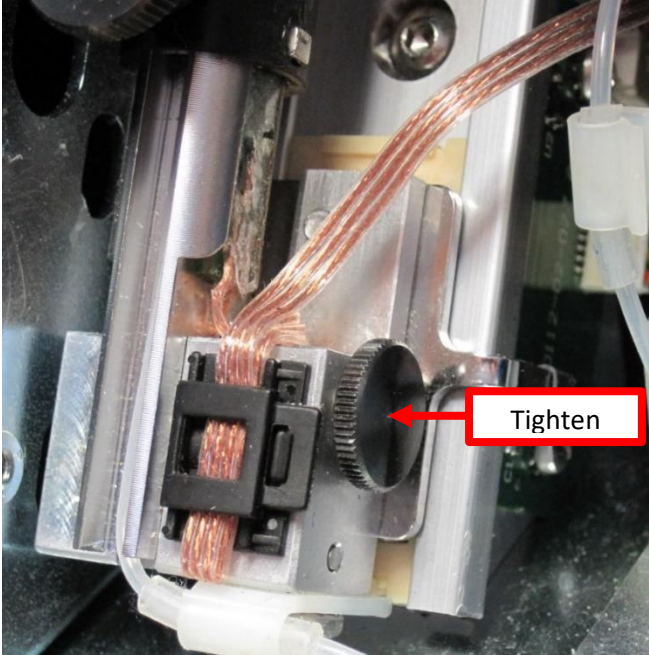

Figure 17
18. Retighten the long **black** Thumbscrew on the side of the Piercing System. Tighten the Thumbscrew completely. Verify the Needle Piston Assembly is locked in position and cannot pivot outwards. Figure 17